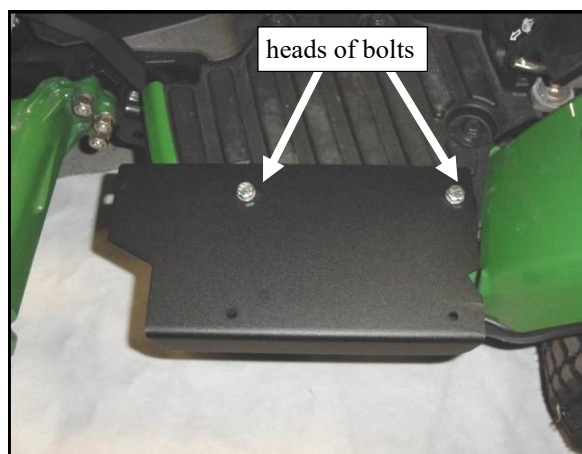
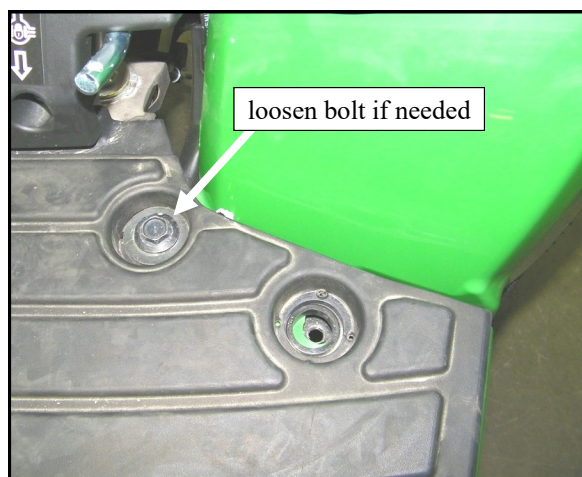

Fig. 4.1 (Front Mount- Left Side of Vehicle)
Fig. 4.1a (Front Mount- Left Side of Vehicle)
**4.1** Install the left side front mount. See Fig 4.1. Use bolts listed below. Use caution not to cross thread the bolts. On the bottom side, loosely install the supplied lock nuts. *Note: if it is difficult to install front mounts, loosen the third bolt found on the floorboards to re-align the green plastic fender slots with the floorboard. See fig. 4.1a. Do not forget to re-tighten the bolt once the front mount is installed properly.*